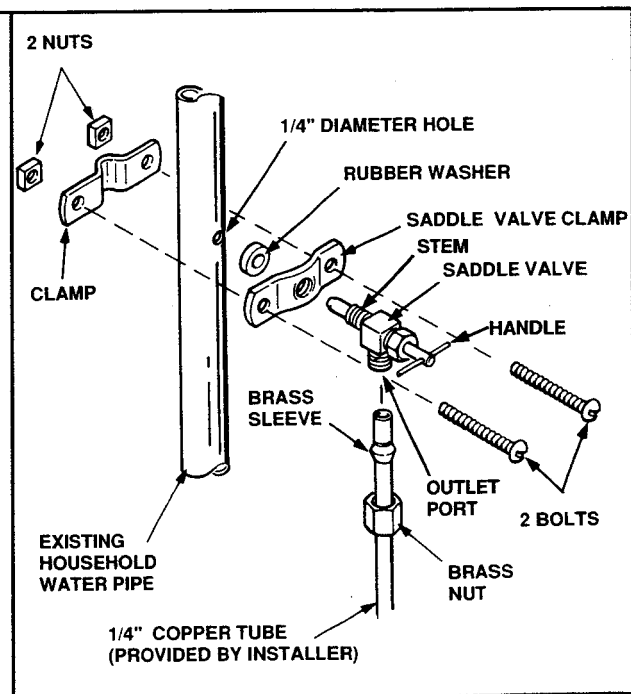

Figure 2
e. Attach the saddle valve to the water pipe, using the parts illustrated in Figure 2.
- Tighten the two (2) bolts and two (2) nuts evenly, in increments, so spacing between both sides of the clamp remains equal.
f. Slip the brass nut and brass sleeve onto the 1/4-inch flexible copper tubing, as shown in Figure 2.